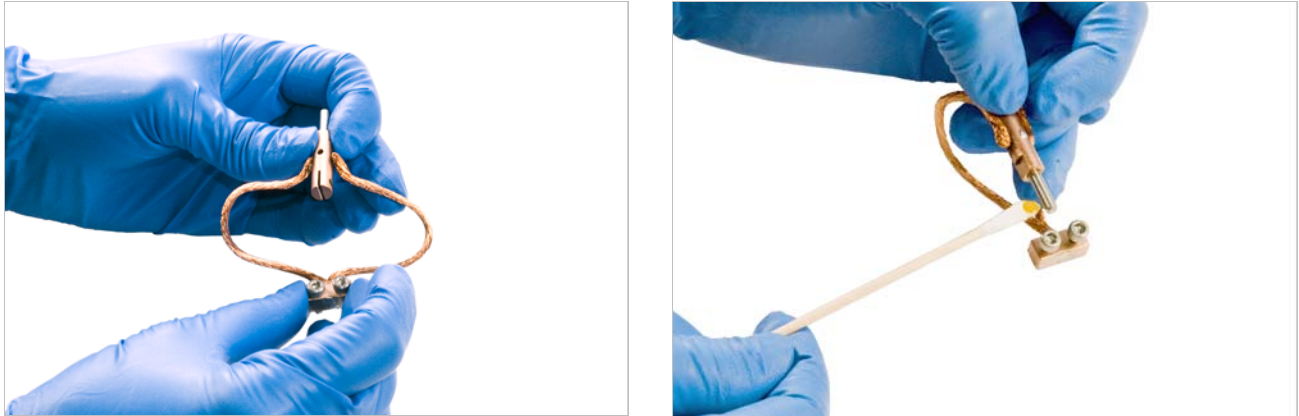

FIGURE 3-20 Left: To install the probe mount, bend the probe mount braids; Right: Apply grease to the end of the dowel
2. Flex the probe mount braids so that the copper braid block will be in approximately the correct position for attachment (FIGURE 3-20).
3. If desired, apply a small amount of Apiezon® N brand grease to the end of the dowel and the bottom of the braid block (FIGURE 3-20). The grease enhances the thermal contact between the probe and the probe arm; however, some users prefer to keep the sample area free of all greases. Specified system performance does not require grease on the bottom of the probe arm braid block or on the probe dowel.